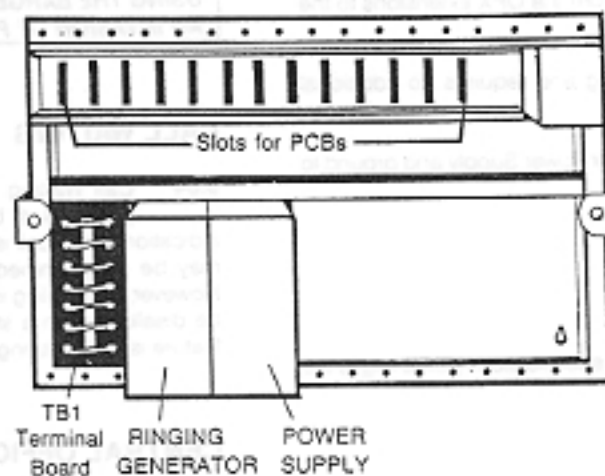
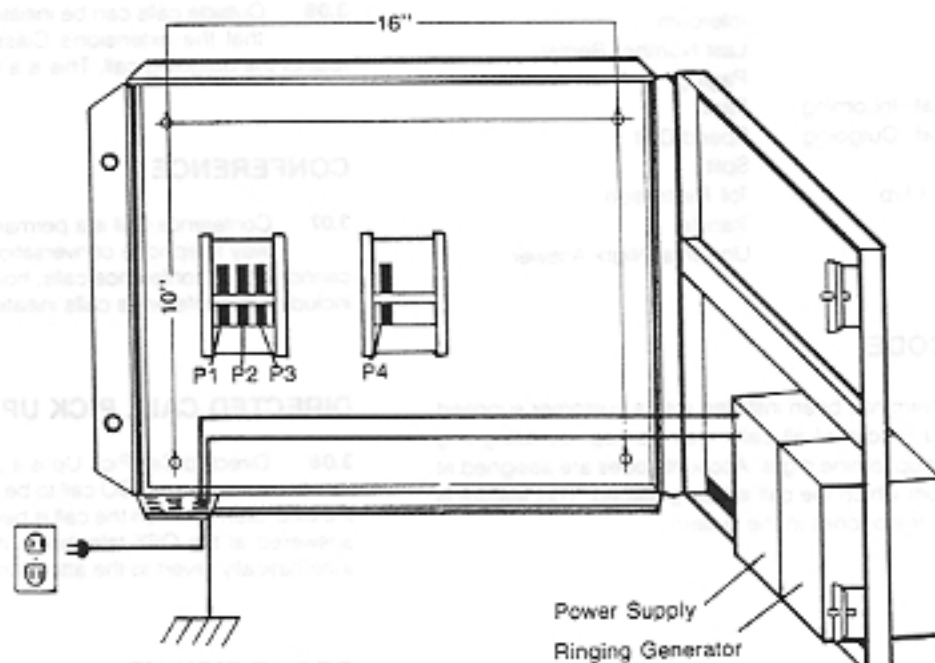

Figure 3 13 CARD KSU OUTSIDE VIEW
Figure 4 13 CARD KSU WITH HINGED SHELF OPENED
**1.05** The 13 Card KSU is designed for wall mounting. Eight of the 13 card positions can be used for B-OPX-A PCBs (Figure 3). Remaining positions can be used to accommodate future tie-line applications. The 13 Card KSU is similar to the 6 Card KSU in that the Power Supply and Ringing Generator are mounted on the shelf (Figure 4). The 13 Card KSU contains four 50-pin plugs located on the back of the unit and a terminal block located on the front.